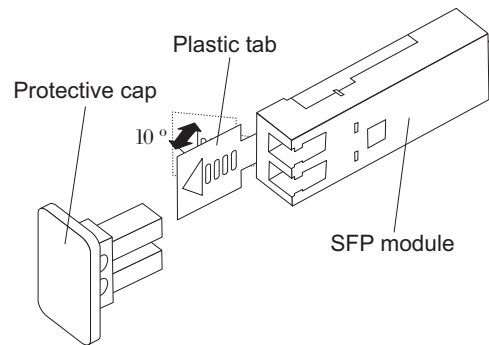

Figure 28. Unlocking the SFP module latch - plastic variety
- For SFP modules that contain plastic tabs, unlock the SFP module latch by pulling the plastic tab outward 10°, as shown in Figure 28 on page 51.